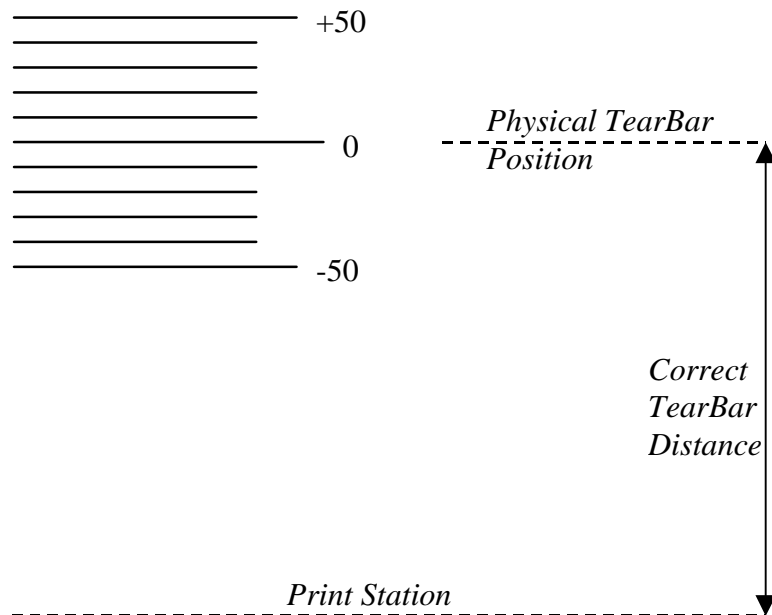

Figure 34. Correct Tear Bar Distance
8. Press **MENU/ENTER** to select the desired value. An asterisk appears next the selected value and a scale prints to indicate the tear bar distance in relation to the tear bar. For correct tear bar distance, the zero should align with the tear bar. See Figure 34.